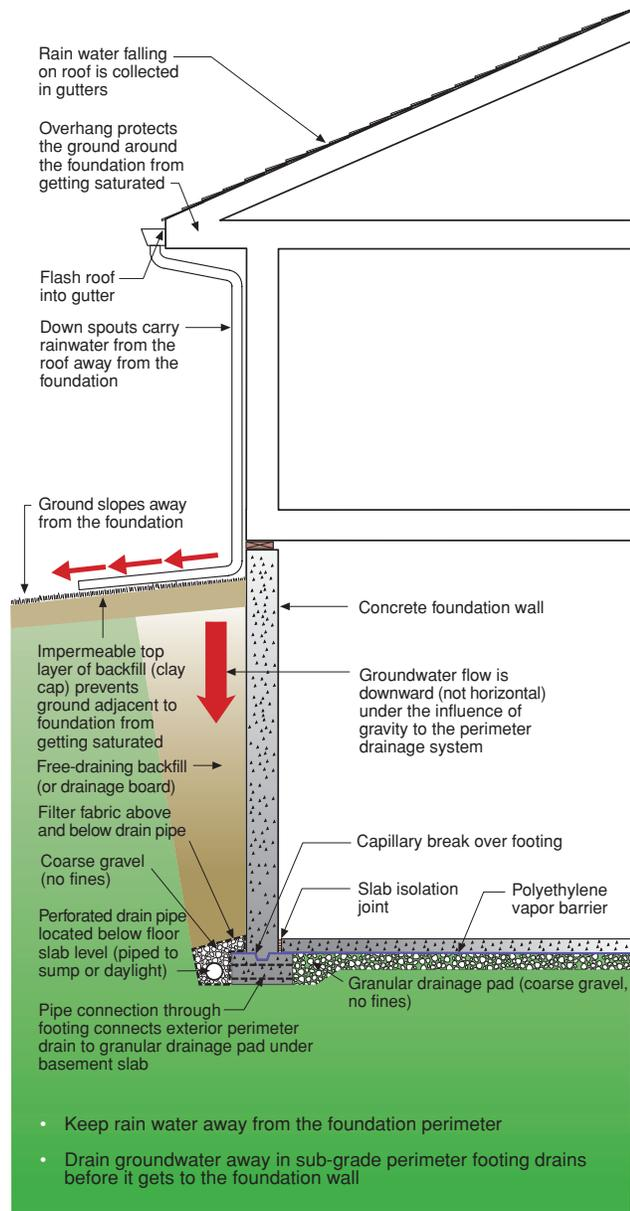
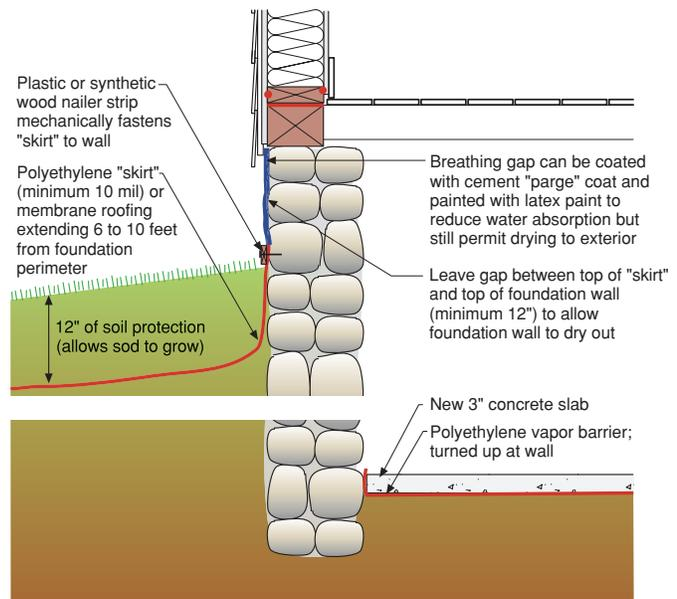
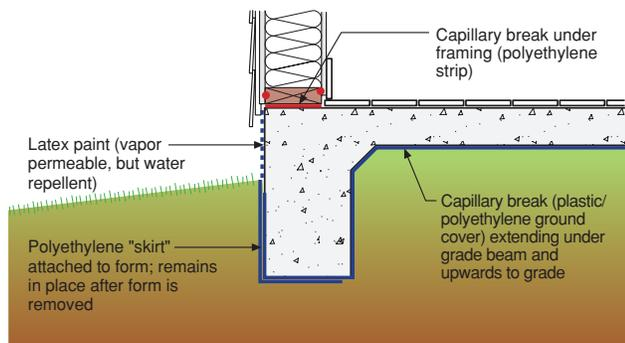
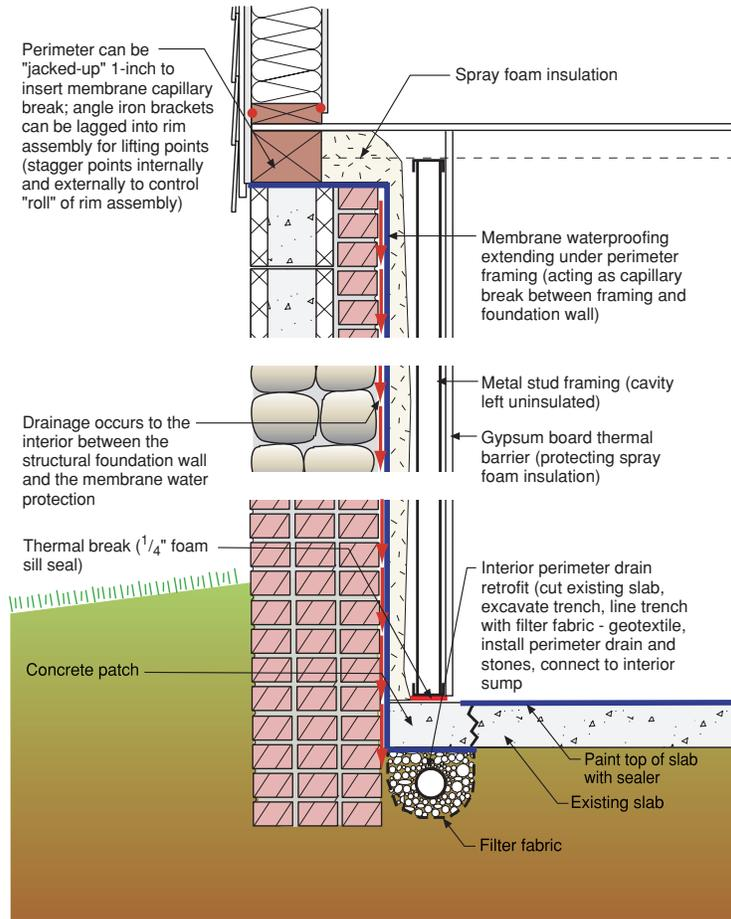

Figure 8a
Figure 9
Figure 13
Figure 14
The fundamental principles of groundwater control are to keep rainwater away from the foundation wall perimeter and to drain groundwater with sub-grade perimeter drains before it gets to the foundation wall. This applies to slabs, crawlspaces and basements (see **Figures 8a, 8b** and **8c**) regardless of whether they are newly constructed or undergoing rehabilitation (see **Figure 9**).
Interior perimeter drainage can also be used in new construction — particularly where impermeable rigid insulation is used on the interior of the foundation wall. This allows rigid insulation of greater than 1-inch to be used. And, if foil-faced rigid insulation is used — with the appropriate flame-spread and smoke-developed rating — it can be left exposed (i.e. interior gypsum board does not have to be installed as thermal barrier for fire protection. See **Figure 14**).
However, in renovations, exterior perimeter drainage may not be present or may not be practical or possible. In such cases, interior perimeter drainage can be used and connected to an interior sump pump. Interior sump pits/crocks must be fitted with airtight gasketed covers to prevent soil gas entry. This interior perimeter drainage may be combined with an interior drainage layer. Where an interior drainage layer is used, it must be gas tight and vapor tight relative to the interior (see **Figure 13**). Another technique is to use an exterior impermeable material to minimize rain and groundwater entering below grade spaces (see **Figure 9**).
- Thicker foam can be used if drainage is provided between the foam and the foundation wall (see Figure 14)
barrier and the assembly (i.e. exterior to the vapor barrier – see **Figure 13 — Interior Drainage: Renovations** and **Figure 14 — Interior Drainage: New construction**).
Impermeable interior finishes should be avoided, such as vinyl wall coverings or oil (alkyd) based paints. In a similar vein, vinyl floor coverings should be avoided on basement floor slabs or on slab-on-grade construction unless a low water-to-cement ratio concrete is used (less than 0.45) installed directly over a polyethylene vapor barrier”– and only where slab edges are protected from capillary water (see **Figure 13 – Capillary Control For Monolithic Slab**).